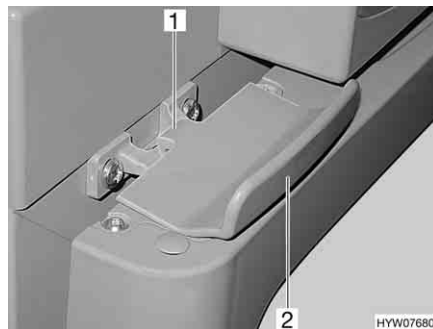

Fig. 235 Lock of refrigerator door, closed (Thetford)
- Open the refrigerator door at the handle (Fig. 235,2). The lock (Fig. 235,1) is released automatically.